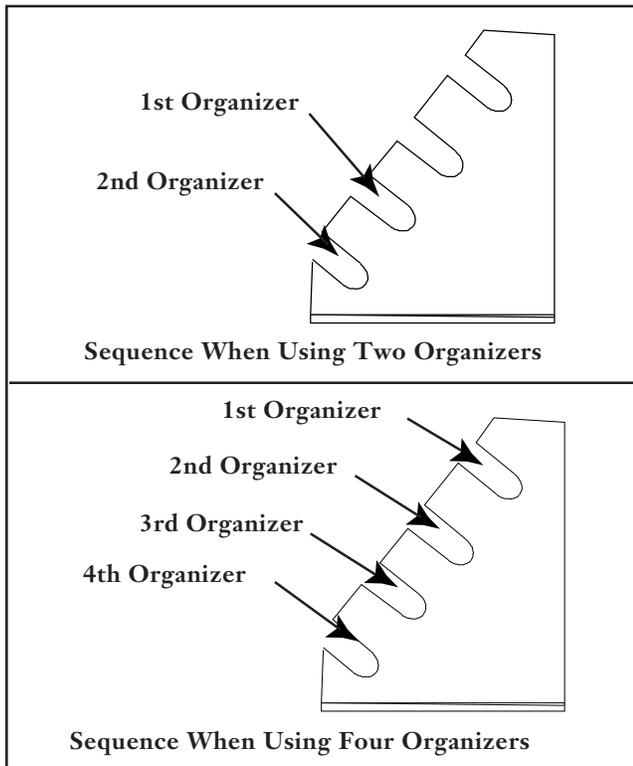

Figure 9
8.4 Route the pigtails and buffer tubes around the fiber routing guide on the backplate of the unit (Figure 9).